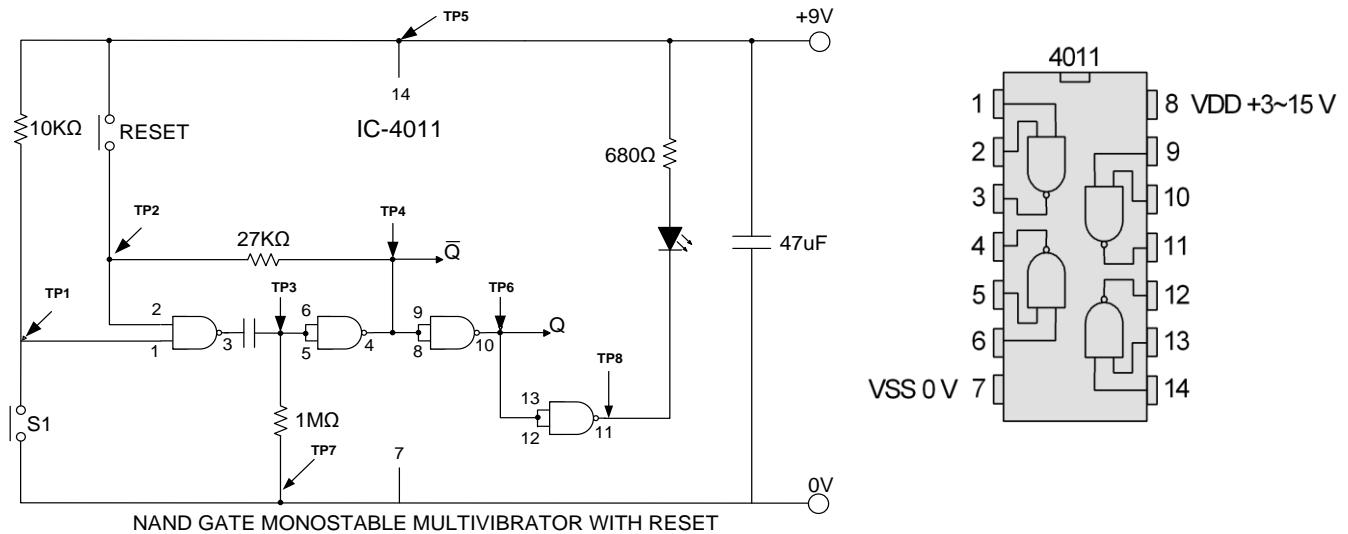

Figure 55
1. Connect the circuit shown in the diagram in Figure 55.